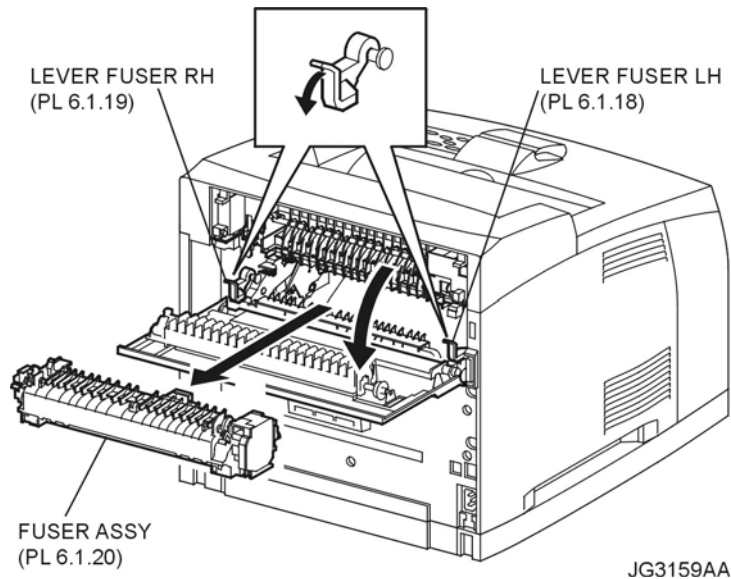

Figure 1. Fuser Assembly
- 2) Push down the LEVER FUSER LH (PL 6.1) and LEVER FUSER RH (PL 6.1) in the direction of the arrow to release the lock of the FUSER ASSEMBLY (Figure 1).
- 3) Shift the FUSER ASSEMBLY in the direction of the arrow, and remove it from the printer (Figure 1).
- 1) Shift the FUSER ASSEMBLY in the opposite direction of the arrow, and install it to the printer (Figure 1).